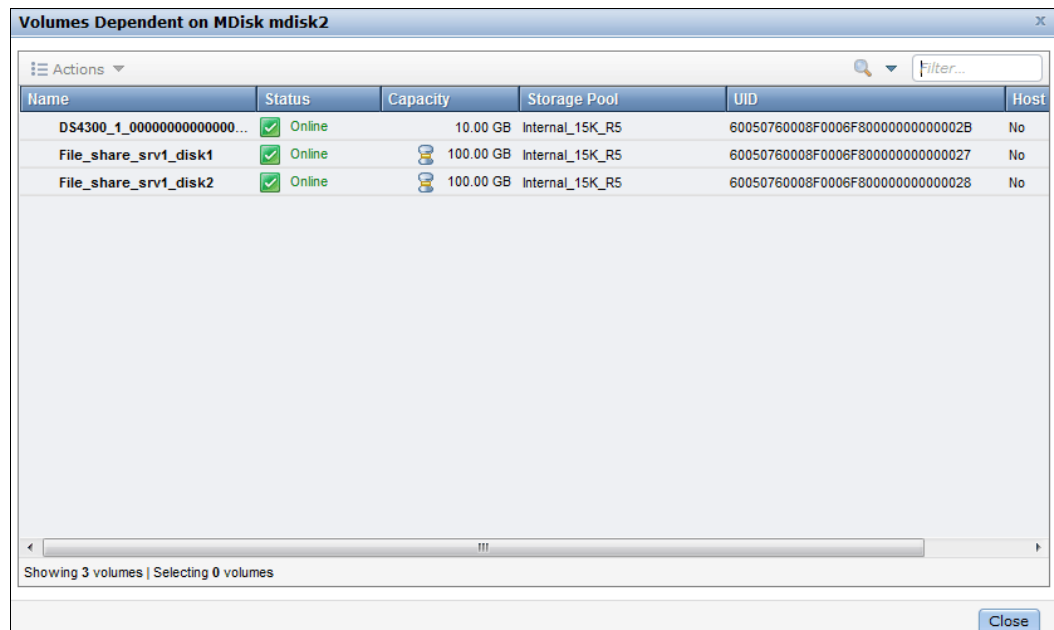

Figure 8-55 Show dependent volumes
- **Show Dependent Volumes:** The volumes dependent on a particular MDisk can be displayed by selecting the MDisk and clicking **Show Dependent Volumes** from the **Actions** drop-down list. The volumes are listed with general information (Figure 8-55).